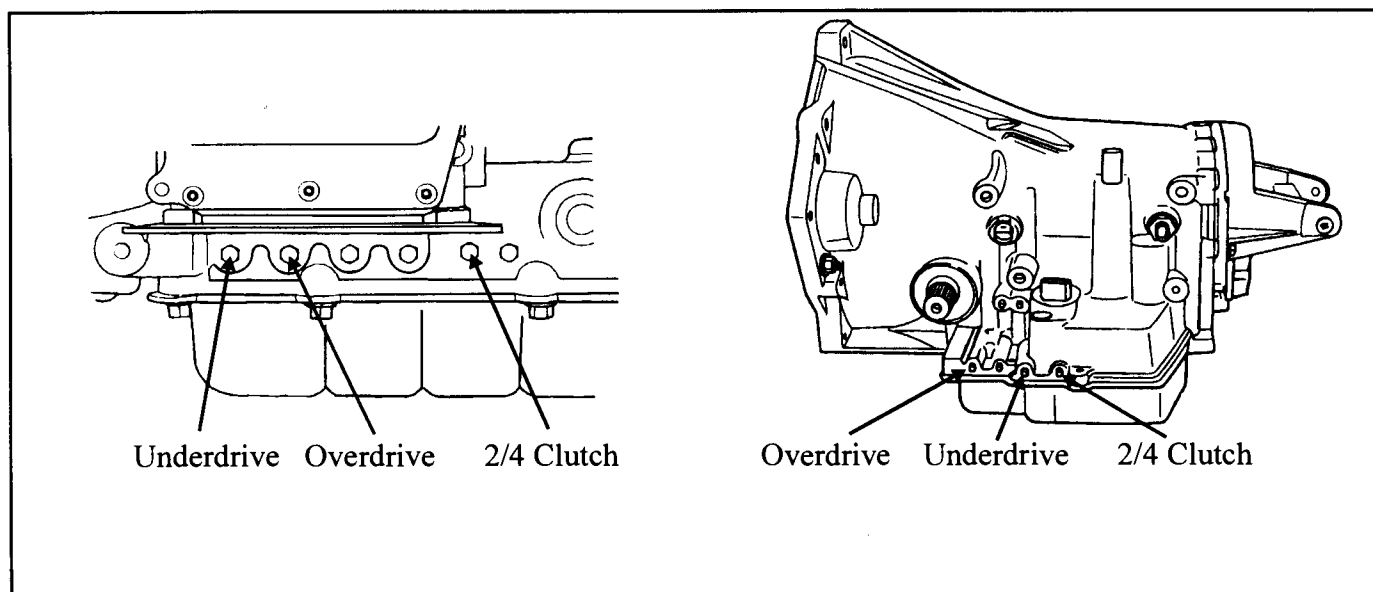

Figure 56
- With the pressure specifications given on page 65, the UD, OD and 2/4 hydraulic circuits should be checked with a pressure gauge (See Figure 56). The 2/4 clutch pressure should be checked in 2nd gear. 120-145 psi should be seen and 0 psi in first and third. Since the transaxle is experiencing a 3-4 shift abort, the full 75-95 psi may not be seen at the 2/4 tap when attempting to go to fourth and should be considered as normal. If the pressure in the 2/4 clutch circuit is substantially low in second gear or pressure is seen in first or third, this hydraulic circuit needs to be investigated.